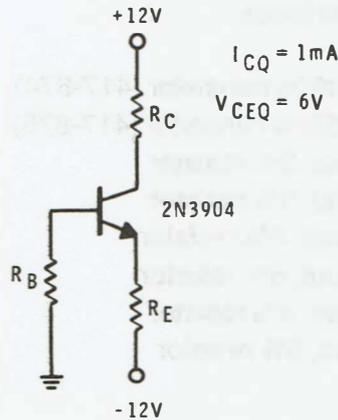

Figure E3-2
2. Calculate the resistors required for the circuit in Figure E3-2.
12. Construct the emitter bias circuit in Figure E3-2. Here: